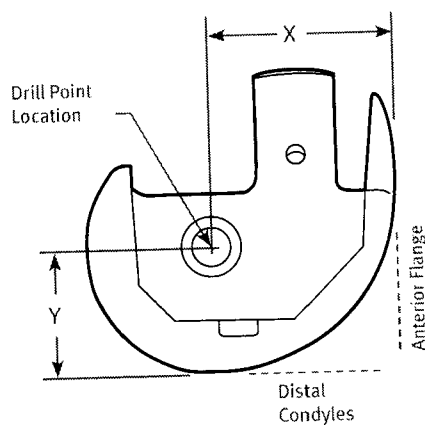

Fig. G13
- I. Locate & mark the drilling center point on the medial side of the bone at a distance of 'X' from the Anterior flange and a distance of 'Y' from the Distal Condyle surface as shown in Fig. G13.